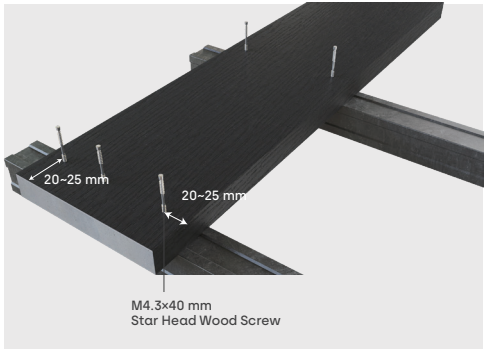
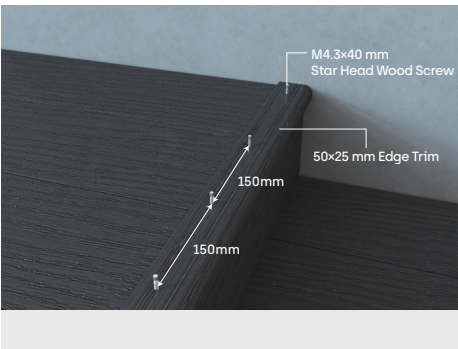

Figure 4-4
Figure 4-5
4. When the board width is 200 mm, use three screws at each board end and two screws in the intermediate areas. As shown in Figure 4-4. When the board width is less than 200 mm, use two screws throughout. When installing 50 mm edge trim boards, the screw spacing should be set at 150 mm, as shown in Figure 4-5.